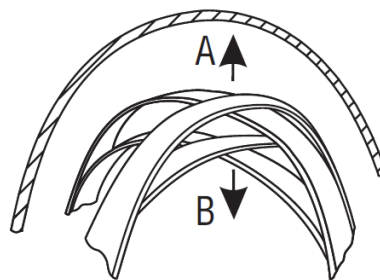

Figure 2 Protective Helmet
6. Push the top crown strap toward the crown of the protective helmet as show by arrow A in Figure 2.
**NOTE:** The bottom crown strap will move as shown by arrow B in Figure 2.